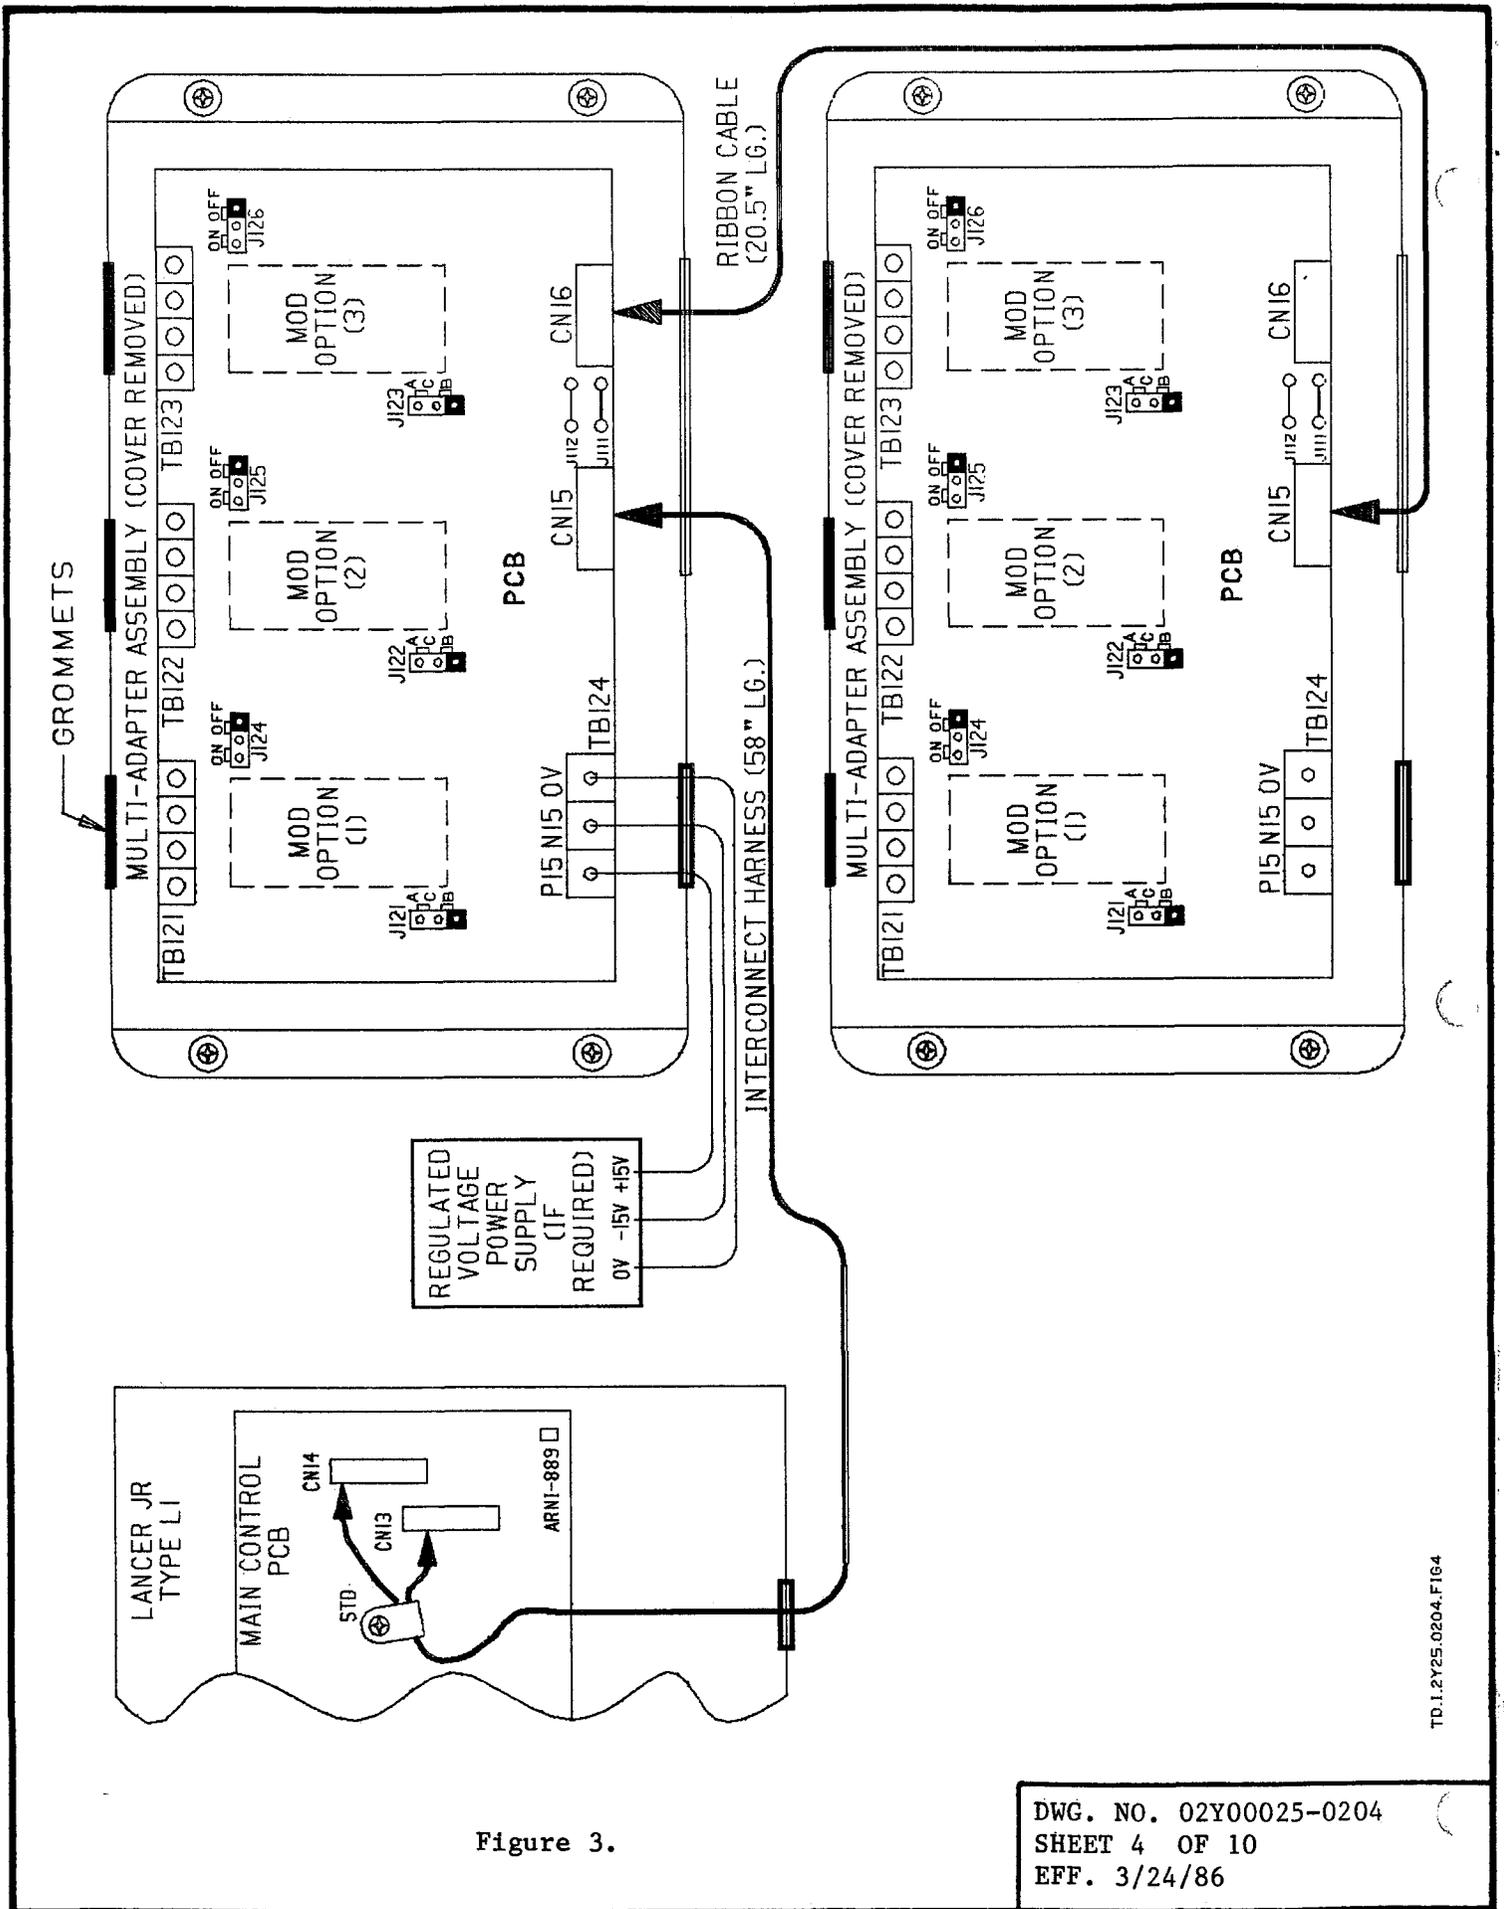

Figure 3.
12. See Figure 3. Route the other connector (CN15) of the interconnect harness through the rectangular cutout in the bottom of the Multi Adapter enclosure. Orient this polarized connector to match male connector CN15 on the PCB, and push into place so that retainer clips snap into position.
4. See Figure 3. Insert connector CN16 of the ribbon cable through the rectangular opening in the bottom of the existing Multi Adapter enclosure. Orient this polarized connector to match male connector CN16 on the PCB, and push into place so that retainer clips snap into position.
5. See Figure 3. Route the ribbon cable to the bottom of the new Multi Adapter enclosure and insert connector CN15 through the rectangular opening. Orient this polarized connector to match male connector CN15 on the PCB, and push into place so that retainer clips snap into position.